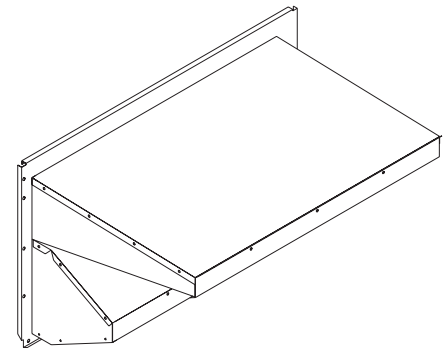

Fig. 23 — Completed Hood Assembly
5. Slide the outdoor-air inlet screens into the screen track on the hood side panels. While holding the screens in place, fasten the screen retainer to the hood using the screws provided. Repeat the process for the barometric exhaust air screen. *Do not attach completed (Fig. 23) hood assembly to unit at this time.*